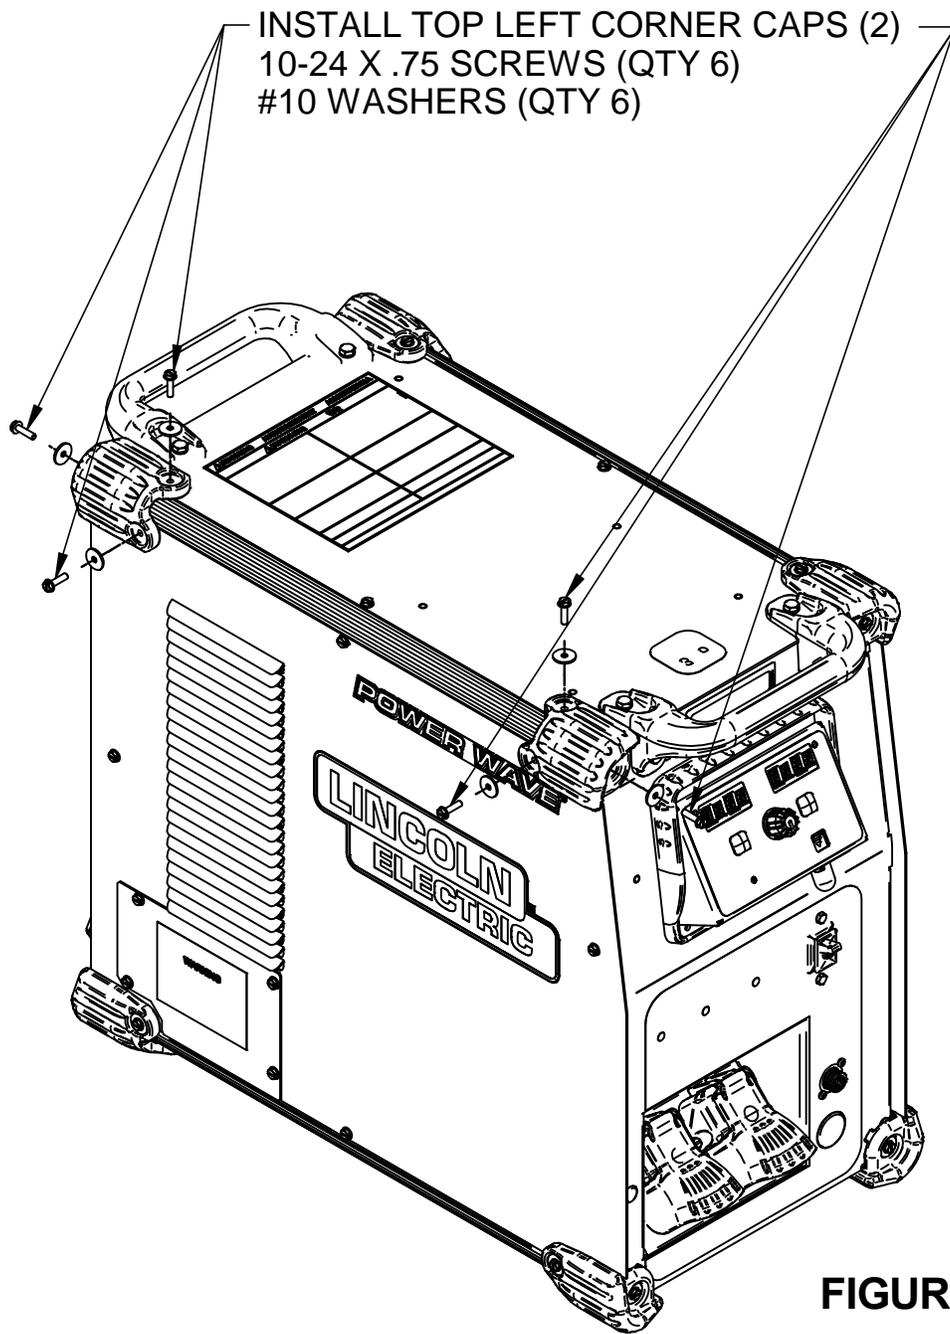

FIGURE 8
11. Install the top left Corner Caps by using the hardware removed from mounting the Corner Caps in step 5, using a 5/16” nut driver or other suitable tool (**Figure 8**).